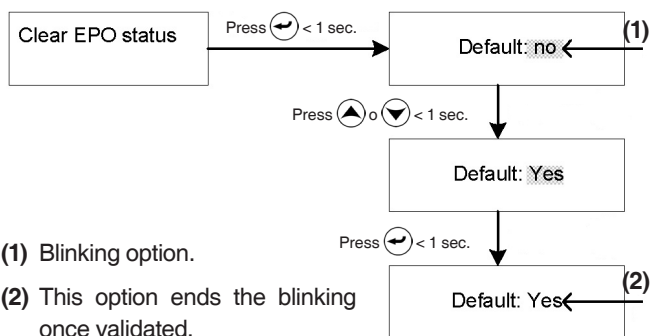

Fig. 35. Example of screens of EPO status cleared.
- To restore the normal condition, the EPO button has to be deactivated previously (close the circuit again) and enter into the "Clear EPO status" submenu to clear the current status of the EPO. Doing this the alarm of the UPS is cleared and the output voltage is restored through the bypass (bypass mode). The equipment recovers the start up functionality with its normal procedure. See figure 35 as an example.